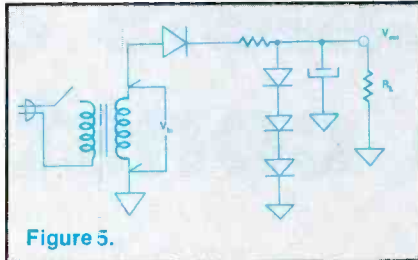

Figure 5.
9. All of the diodes in the circuit of Figure 5 are silicon types. Which of the following is true regarding this circuit?